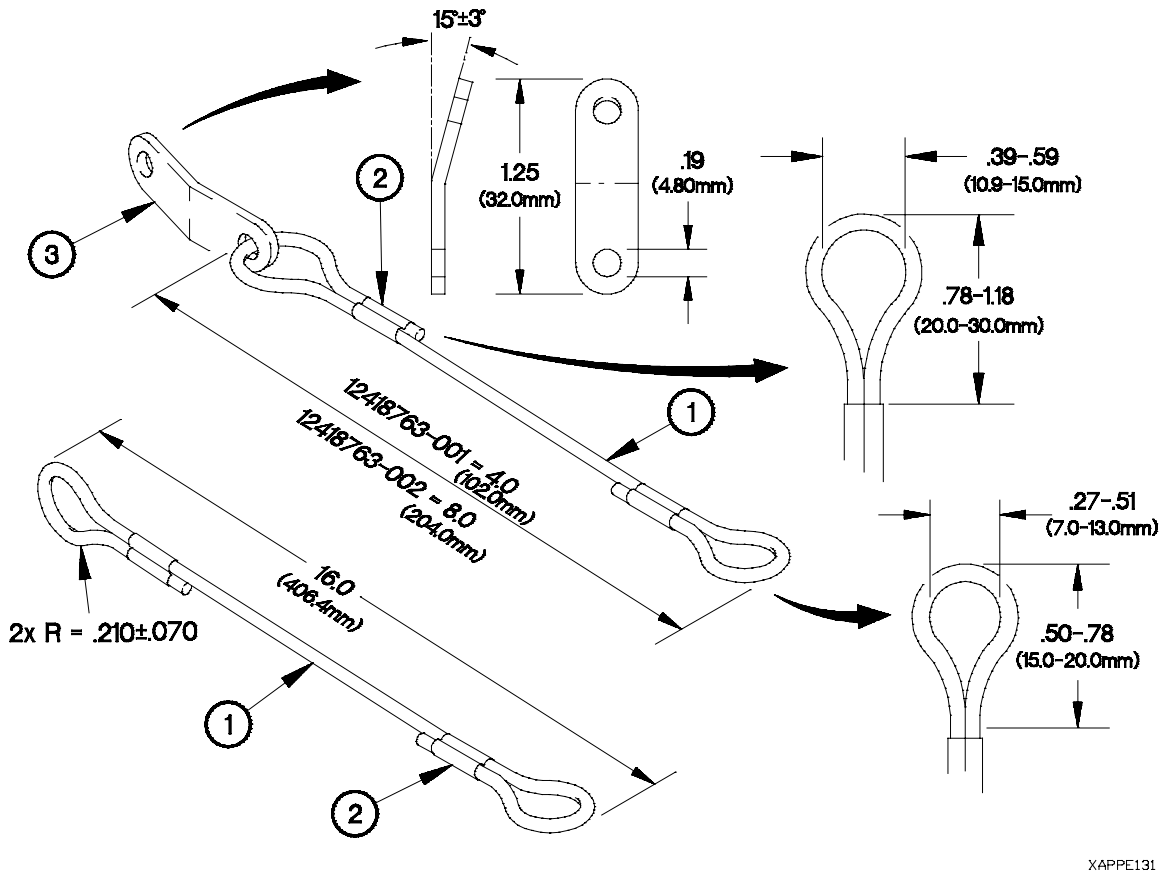

Figure E-14. Lanyard Assembly
Make the following lanyard assemblies from bulk cable material, sleeves, and tab material and assemble according to **Figure E-14. Lanyard Assembly**. The following parts list identifies part numbers and lengths of cut pieces.
- c. Drill two 0.19 in. (4.8 mm) diameter holes through tab material as shown on **Figure E-14. Lanyard Assembly.**
- e. Bend tab as shown on **Figure E-14. Lanyard Assembly.**
- f. Form loops on cable ends and insert sleeve material over cable on one end of cable and over cable and through sleeve at other end of cable as shown in **Figure E-14. Lanyard Assembly.**